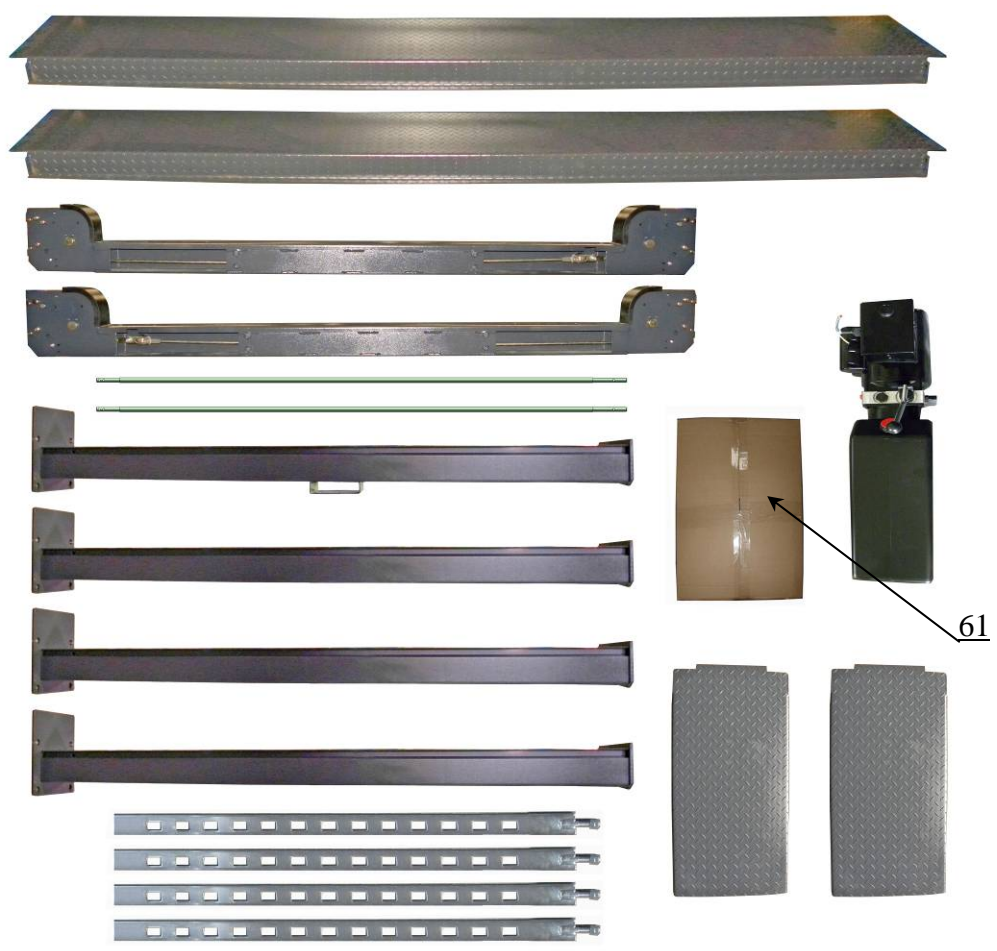

Fig. 7
5. Move the parts to the side and check the parts according to the shipment parts list (See Fig. 7).